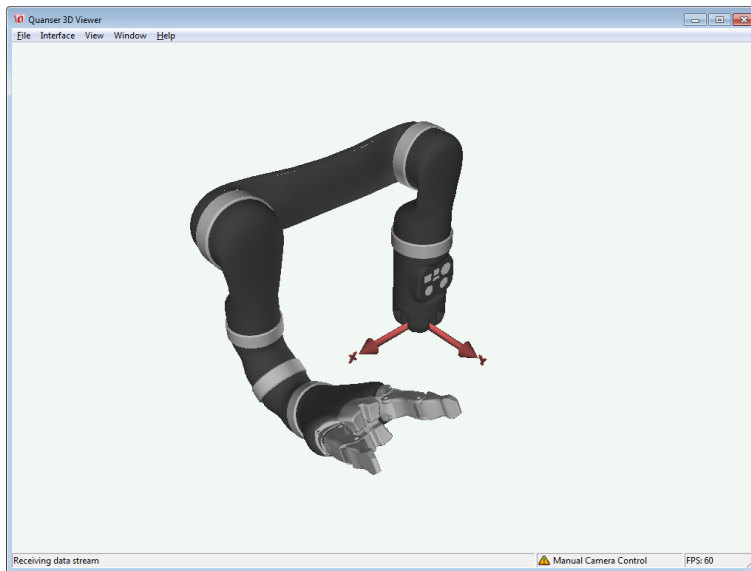

Figure 3.8: Visualization of the 6 DOF MICO
The joint commands to the *Visualization - MICO 6DOF* subsystem are expressed with respect to the Global D-H reference position. For example, a zero input for all 6 joints will result in the robot staying at the D-H HOME position (displayed in Figure 2.1 or Figure 3.8). The finger commands in the *Visualization - MICO 6DOF* subsystem are with respect to the middle (half open/close) position. For example, a zero input will result in the fingers staying at the initial (middle) position (i.e. no motion).
3. Go to QUARC | Start to start running the model. The visualization shown Figure 3.8 should load (i.e. no need to build code).